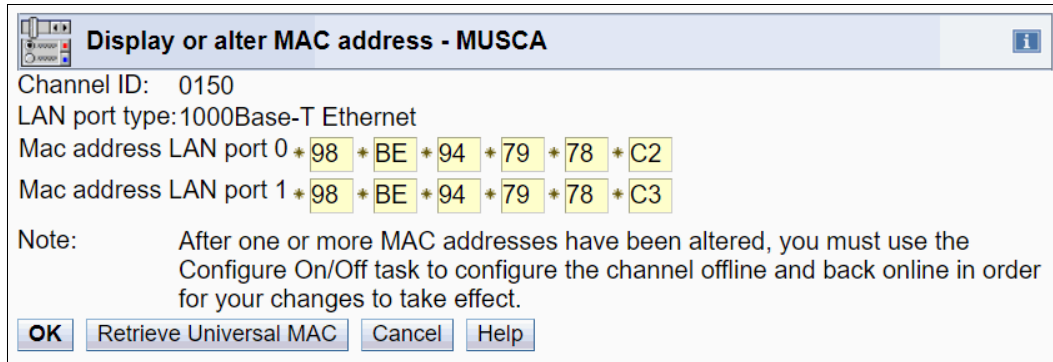

Figure 6-24 Display or alter MAC address values
4. The Display or alter MAC address window opens (see Figure 6-24). Set the MAC address that you want and then, click **OK**.